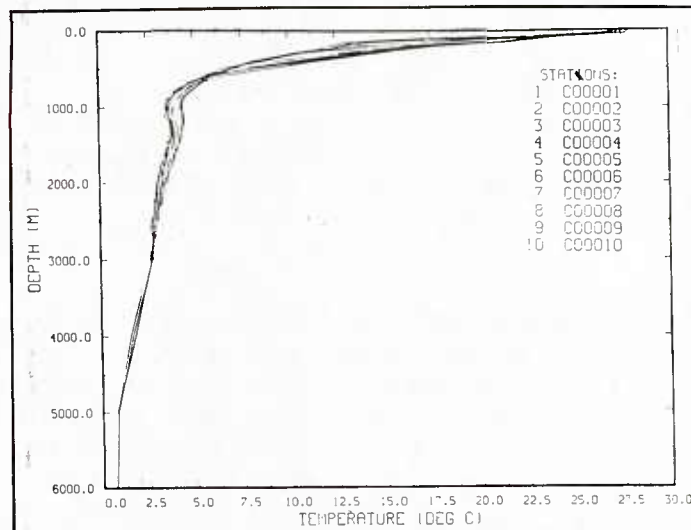

Figure 18. Temperature versus depth overplot.
4.2.6.4.3.1 Temperature versus depth. The overplot of temperature versus depth plots from 1 to 25 temperature profiles on the same axes. Section 4.2.6.4.1.1 describes how each curve is plotted; Figure 18 is an example.